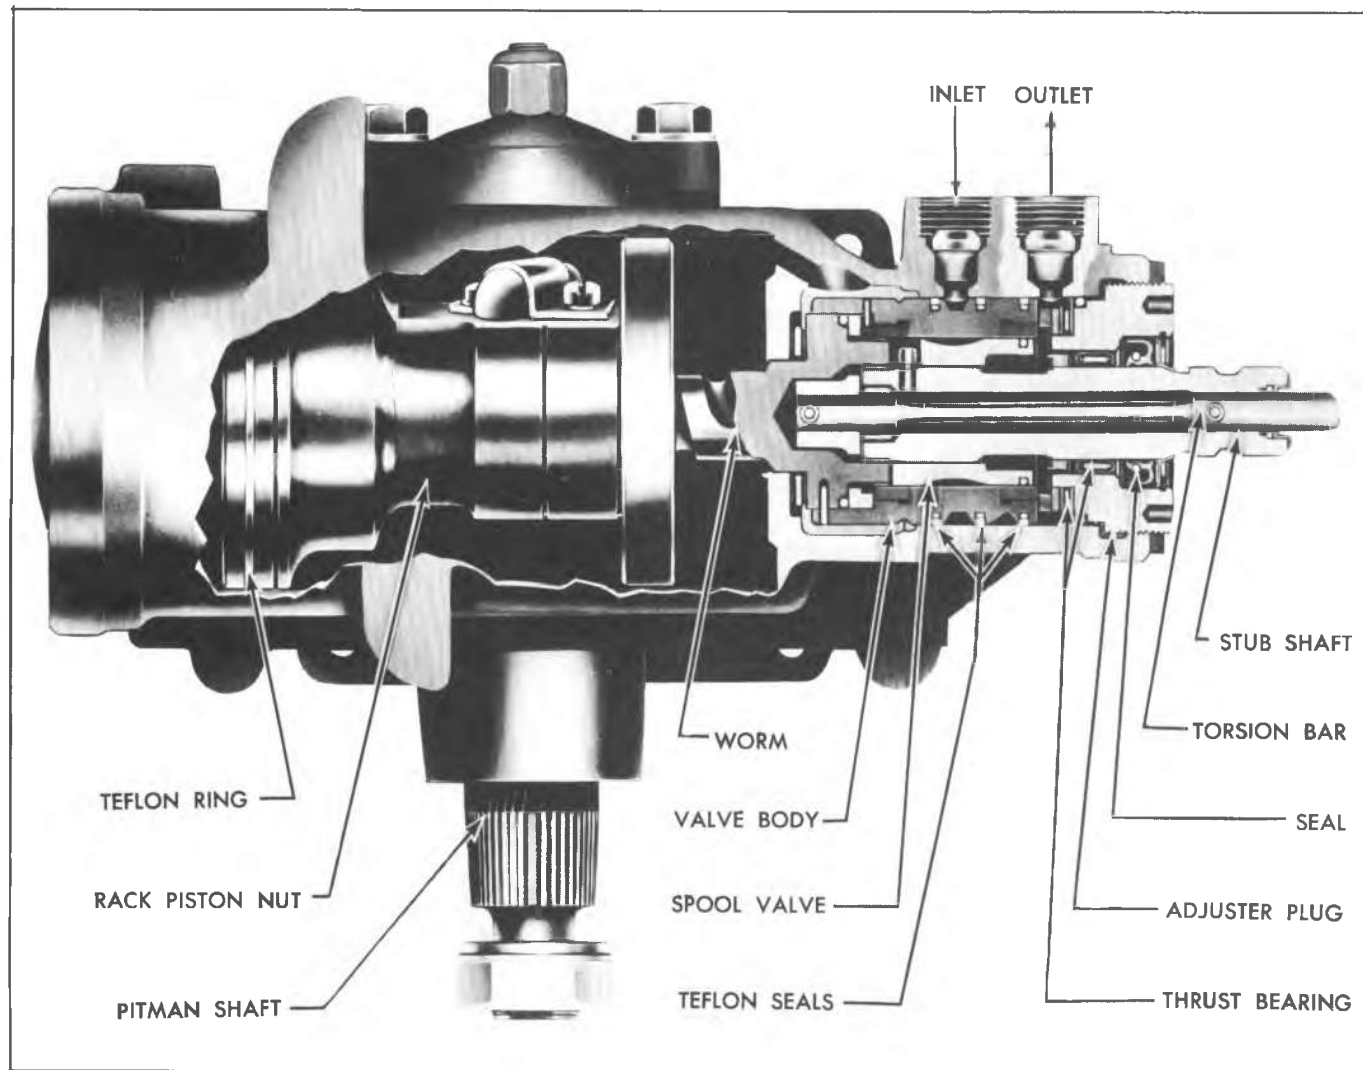

Fig. 3B-33--Power Steering Gear--Typical
1. Rotate end cover retainer ring so that one end of the ring is over the hole in the side of the housing. Force the end of the ring from its groove and remove ring (fig. 3B-34).
3. Remove the rack-piston end plug as shown in Figure 3B-35.